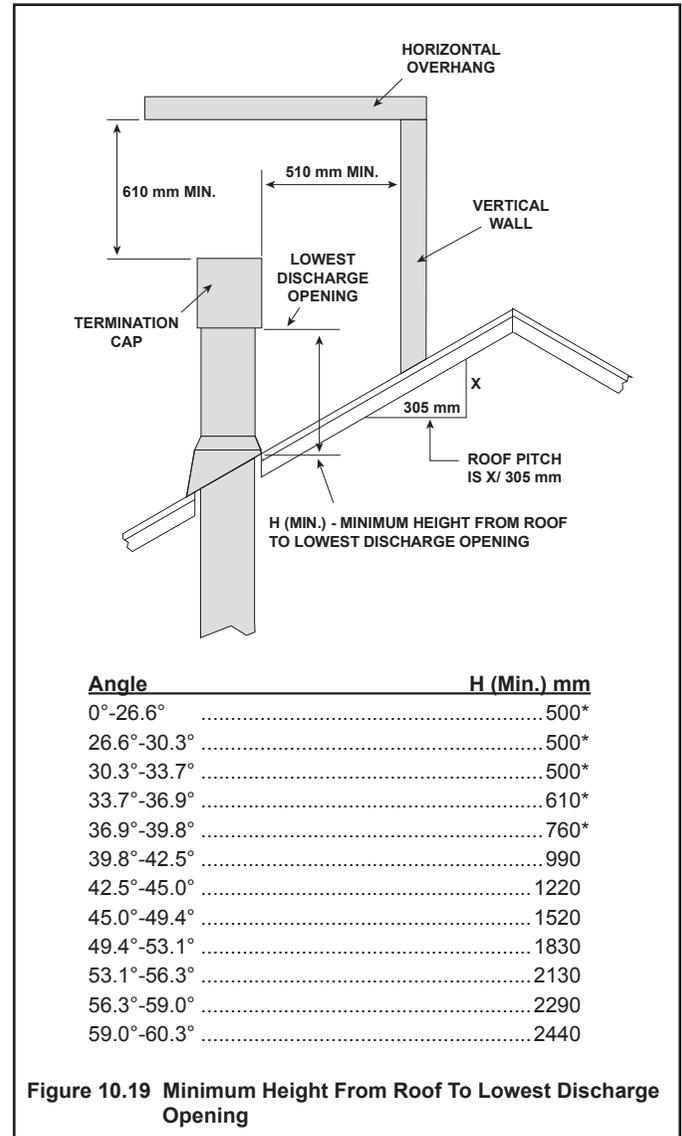

Figure 10.19 Minimum Height From Roof To Lowest Discharge Opening
- See minimum vent heights for various pitched roofs (Figure 10.19) to determine the length of pipe to extend through the roof.